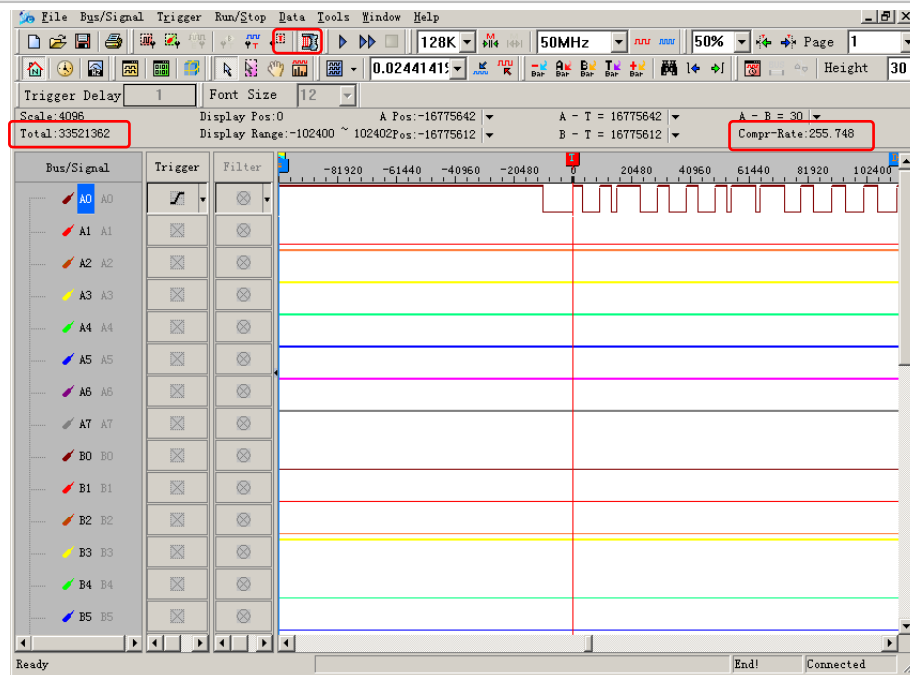

Fig 4-140 – Before and After Compression
**Step4.** Click **Run**, and then activate the signal from the tested circuit to acquire the result on the waveform display area. Fig 4-140 shows the result before and after compression has been applied.